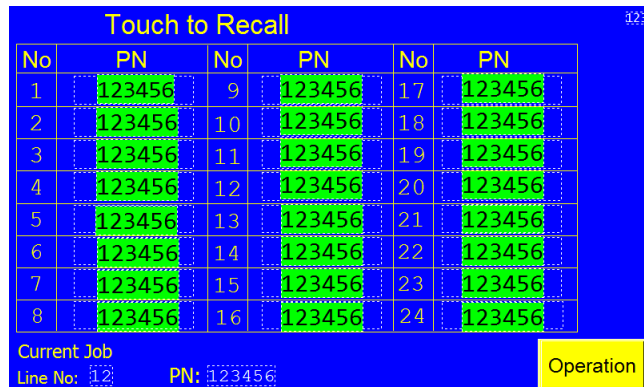

Figure 3-15
**Job Recall Function:** To recall a job that has already been saved, press the field that has your part number displayed (Figure 3-15). Then press the **View** button to display the settings. See Figure 3-14. From this screen, you can run / load the job by pressing the **Load** button.